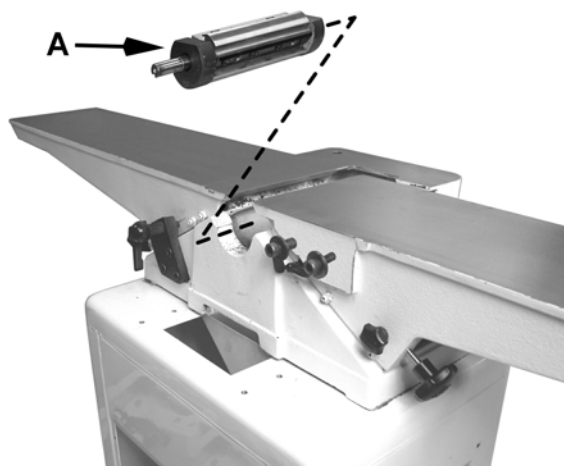

Figure 45
11. Carefully remove the cutterhead (A, Fig. 45).